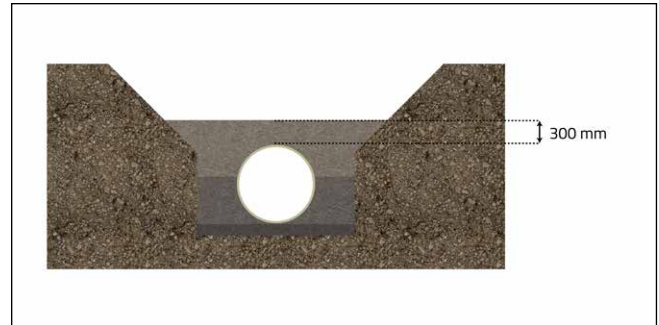

Fig. 73: Excavating over-deflected pipe
- Excavate down to the haunch area. Excavation just above and at the sides of the pipe should be done utilizing hand tools to avoid impacting the pipe with heavy equipment (Fig. 73).